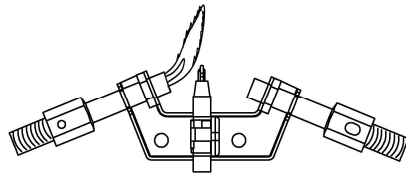

Figure 16 - Incorrect Pilot Flame Pattern
- Figure 16 shows an incorrect pilot flame pattern. The incorrect pilot flame is not touching the thermocouple. This will cause the thermocouple to cool. When the thermocouple cools, the heater will shut down.
- If the pilot flame is incorrect, as shown in Figure 16. Turn heater off (see To Turn Off Gas to Appliance, page 16) See troubleshooting, page 19.